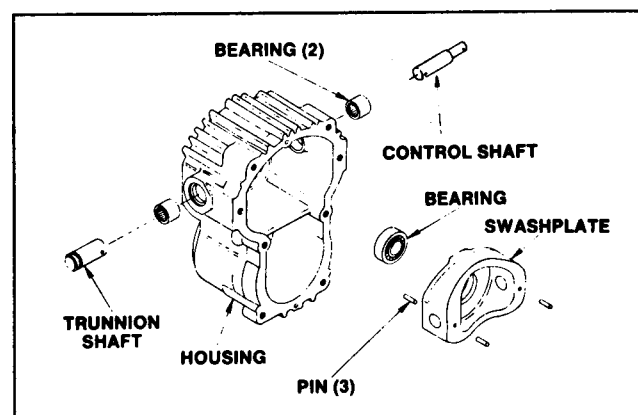

Figure 43
10. If the pump shaft bearing (located in the transmission housing) is suspected as being faulty, it may be removed by pressing it out towards the inside of the housing cavity (Fig. 43). The oil seal may be pressed out of the housing towards the outside (front).
11. Inspect the control shaft needle bearings to determine whether they should be removed and replaced. To remove these bearings, press them out towards the outside of the transmission housing (Fig. 43).